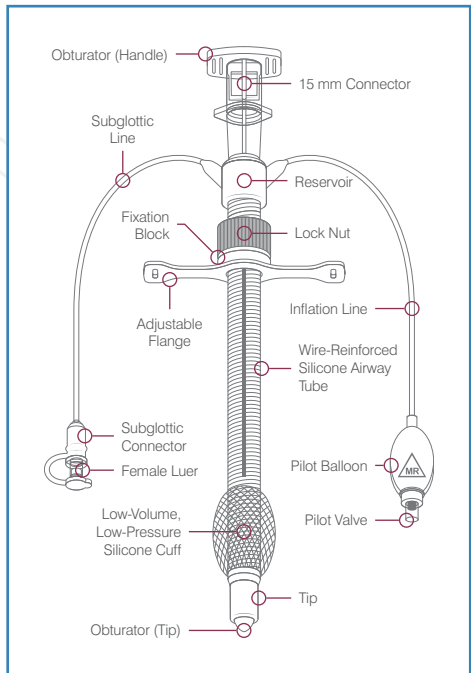

Figure 2: Venner PneuX™ TT
The Venner PneuX™ Tracheostomy Tube (TT) (Figure 2), single use device, is intended for patients undergoing tracheal intubation during extended periods (not more than 30 days) of intensive or critical care to facilitate ventilation and for the evacuation or drainage of secretions from the subglottic space. May also be used for safe and effective Above Cuff Vocalisation (ACV). NB. Flow rates will be lower than for larger subglottic ported TT's.